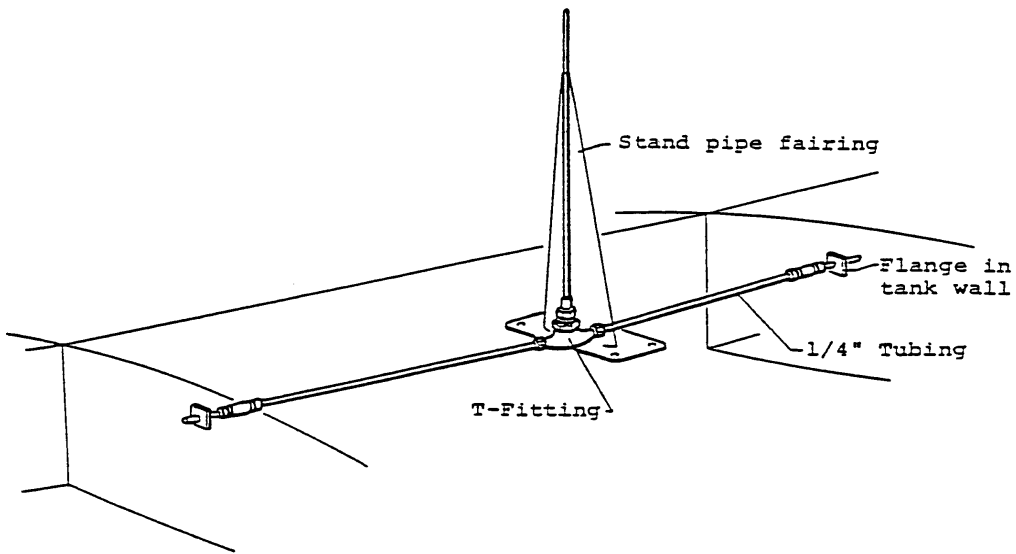

Fig. 1 Existing version of inboard fuel tank vent system
- 1.10 Reference to other Publication: - Parts Catalogue Fig. 7 or Fig.1/1/23 and Fig. 121 or Fig. 5/5/5.
2.2 Removal of Existing Piping (Fig. 1)